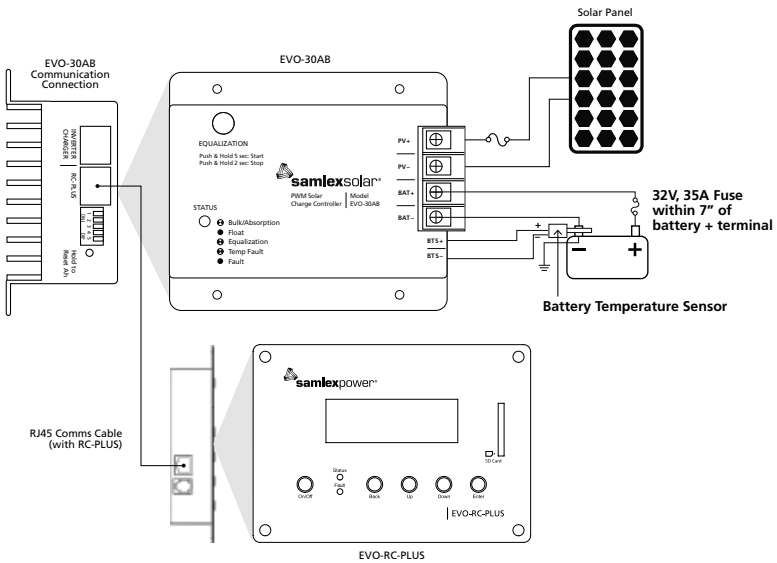

Fig. 6.3 EVO-30AB with EVO-RC-PLUS Wiring Diagram
4. Connect the communications cable between the Charge Controller and the EVO-RC-PLUS as shown in the Figure 6.3.